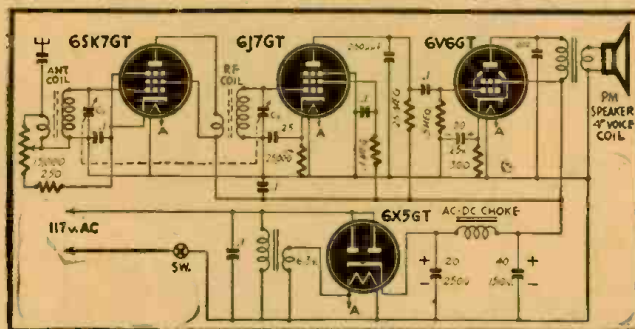

Fig. 1—A simple receiver using one 6-volt filament transformer.
A. The diagram shows a circuit of a receiver using 6-volt tubes. All parts have been specified. (See Fig. 1)